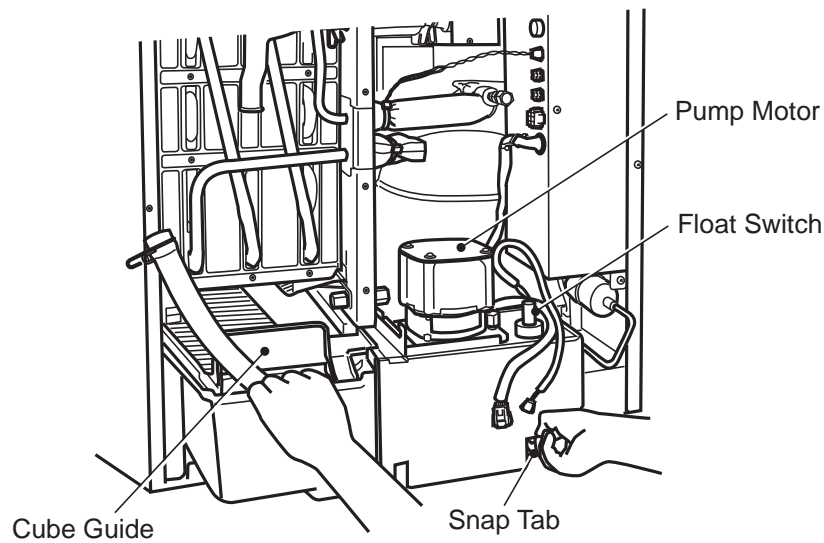

Fig. 13
- d. While pushing up the snap tab at the right side of the pump motor bracket, pull out the water tank, cube guide, pump motor bracket, pump motor and float switch together. See Fig. 13.